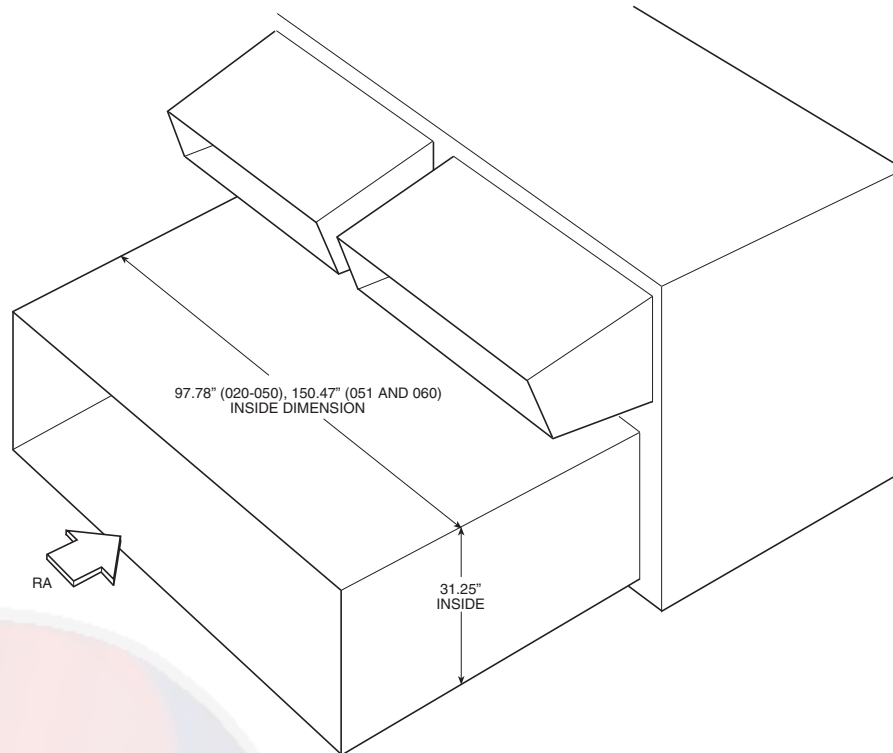

Fig. 43 — Side Return Duct Dimensions
3. Run the return air ductwork up to the openings. One single duct is recommended to connect to the unit over the return air openings. See Fig. 43. The return duct must incorporate a minimum $\frac{3}{4}$ -in. flange for connection to the unit cabinet. The unit does not have duct flanges for this conversion.
Side Supply and Return Units (50A4,A5,A8,A9) with Field-Installed Power Exhaust in Return Duct — Space must be available in the return duct to mount the power exhaust fan (gravity relief) modules. Dimensions and suggested locations are shown in Fig. 43. These instructions are a guideline and not a comprehensive procedure. The design contractor must provide some design initiative.
The wiring harness that is provided with the power exhaust accessory is not long enough for the fan modules to be mounted in the return air duct. Field-supplied wiring must be spliced into the harness. Use a junction box at each splice. The wiring may be run in the return duct as shown in Fig. 43 or externally in conduit. A service access panel will be needed near each power exhaust fan.